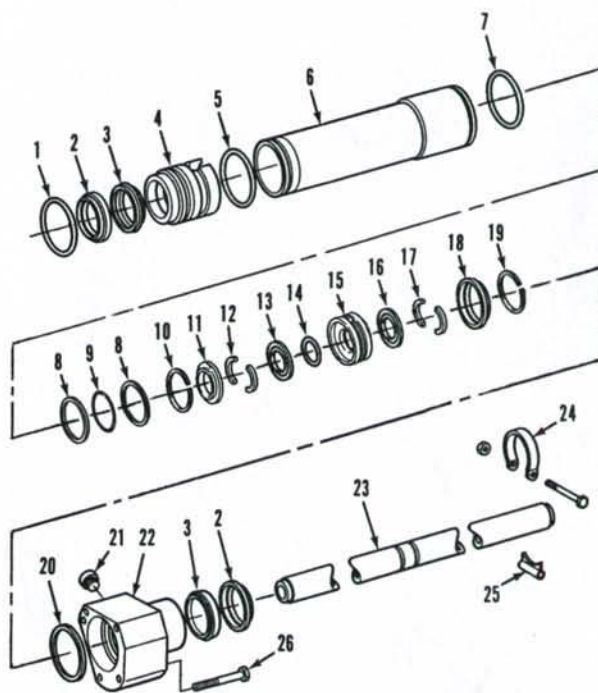

Fig. 41—Exploded view of steering cylinder used on models equipped with front drive axle.
Disconnect steering lines at each end of cylinder. Cap or plug all openings immediately. Clean exterior of cylinder and surrounding area. Disconnect tie rod ends from swivel housing arms. Unbolt and remove steering stop collar at each end of cylinder rod. Remove tie rods by unscrewing threaded studs (3) from ends of cylinder rod. Unbolt and remove right side guide (22—Fig. 41) and shim spacer (20). Withdraw piston and rod assembly, then remove cylinder sleeve (6) and left side guide (4). Remove scraper (2) and groove rings (3) from both end guides. Remove the two Teflon rings (8) and piston seal ring (9) from piston. Remove snap ring (10), collar ring (11) and split ring (12), raise, then lower piston and remove spacer (13) and "O" ring (14). Remove piston (15), spacer (16), split ring (17), collar ring (18) and snap ring (19).
Reassemble cylinder by reversing disassembly procedure and adjust cylinder sleeve to zero end play as follows: With lips of grooved ring (3) and scraper ring (2) facing inward and "O" ring (1) in external groove, install left rod guide (4) with notch facing hydraulic port. With "O" rings (5 and 7) installed in grooves of cylinder sleeve, install sleeve until fully seated on left rod guide. Measure distance between outer and inner faces of right side rod guide as shown in Fig. 42 and record the distance. Then, measure distance between axle housing and end of cylinder sleeve as shown in Fig. 43 and record the distance. Subtract the second distance from the first distance to determine correct thickness of shim spacer (20—Fig. 41) to be used. Shim spacers are available in thicknesses of 0.035 to 0.071 inch (0.9 to 1.8 mm) in increments of 0.004 inch (0.1 mm). Install rod and piston assembly in cylinder sleeve. With lips of grooved ring (3) and scraper ring (2) facing inward in right side rod guide, use vaseline to stick the determined shim spacer to inside of rod guide. Install right side rod guide and tighten rod guide cap screws to a torque of 52 ft.-lbs. (70 N·m).